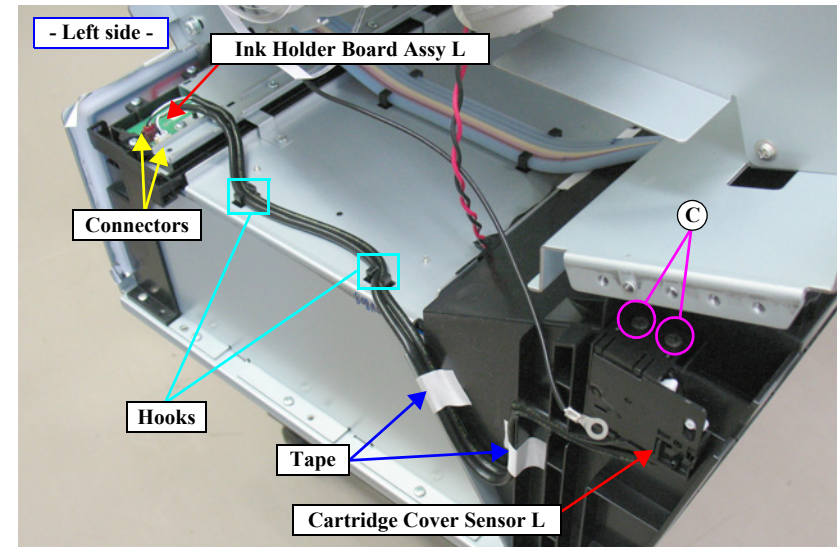

Figure 4-43. Removing the Cartridge Cover Sensor L
9. Release the harness from the two hooks and the tape. *See Figure 4-43.*